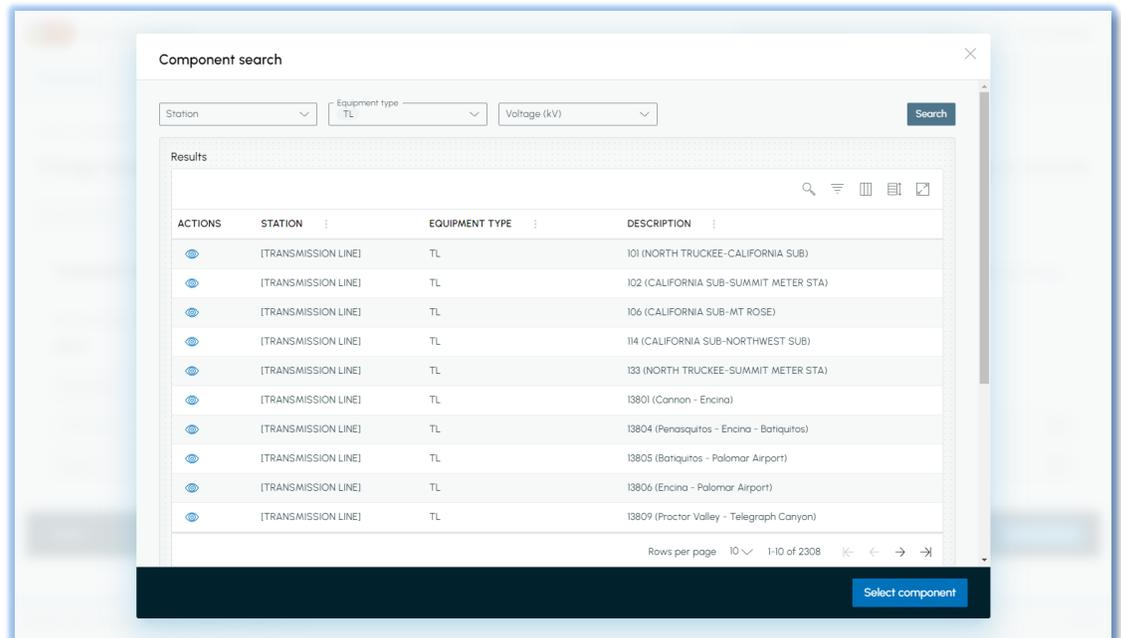

Figure 5 Component Search Screen
- 1) If components without ratings are required, click on the Copy from Component Without Ratings hyperlink and the screen in Figure 5 loads.
- 2) If components with ratings are required, click on the Copy from Component With Ratings hyperlink and the screen in Figure 5 also loads.
- 6) Press the Run Search button and the window loads with rating information, as shown in Figure 5.